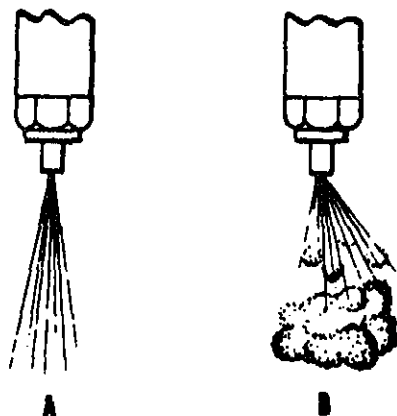

FIG. 11-13
- (A) GOOD NOZZLE SPRAY PATTERN
- (B) POOR NOZZLE SPRAY PATTERN
- (j) Using a sharp pull on the lever, hand operate the fuel injection system. Nozzle should emit a fine narrow cone shaped fuel spray. If any "flags" or "streamers" of fuel are observed, have nozzle replaced. See Fig. 11-13. It is wise to have new nozzle assemblies on hand so no time will be lost while the defective assemblies are being replaced or cleaned.